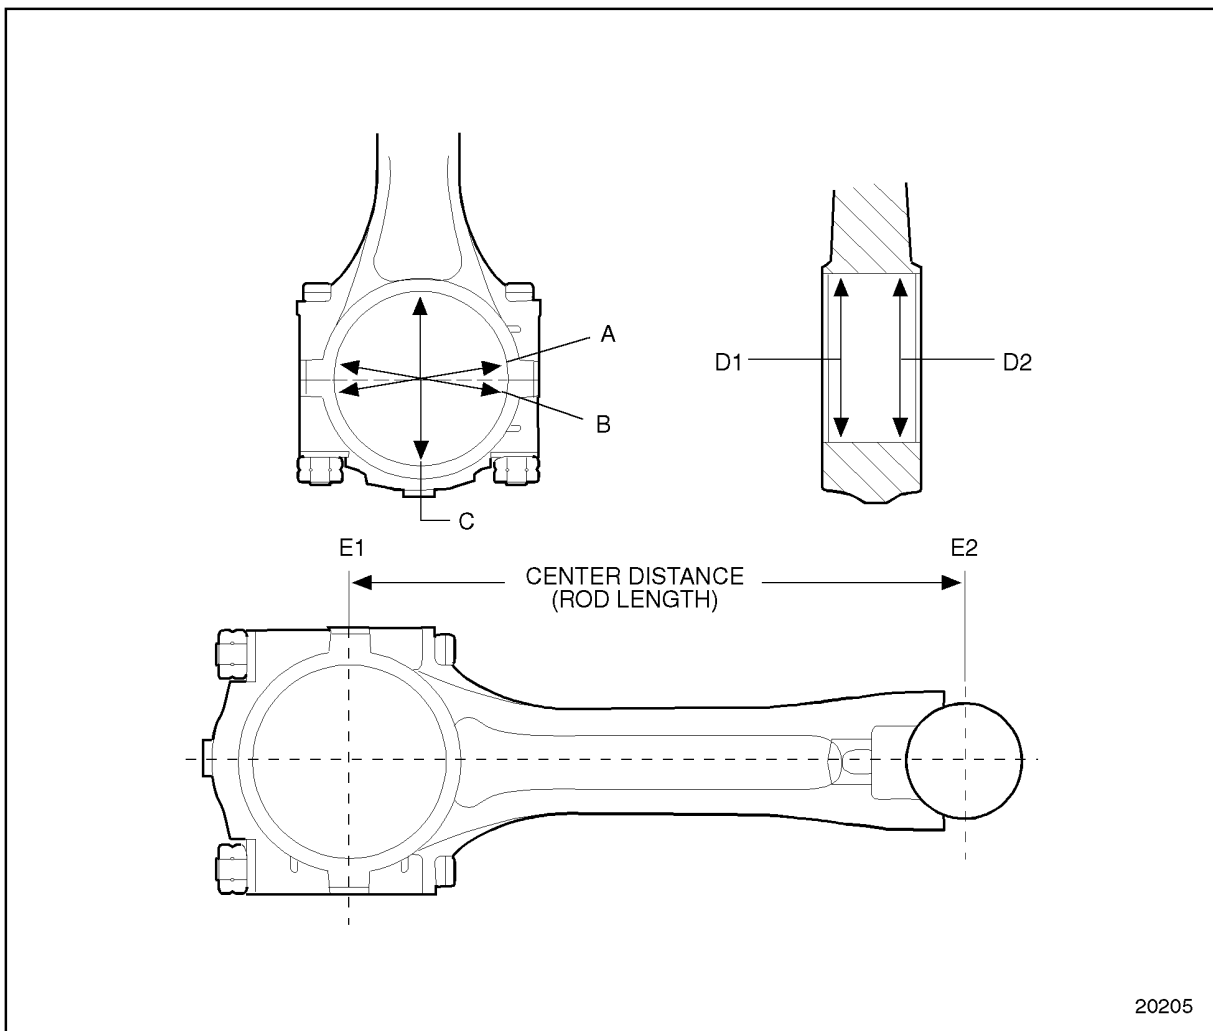

Figure 1-255 Dimensional Inspection of Cross-head Piston Connecting Rods
Measure the connecting rod bearing diameter at five locations. See Figure 1-255.
5. Determine the rod length by finding the distance between E1 and E2. See Figure 1-255.